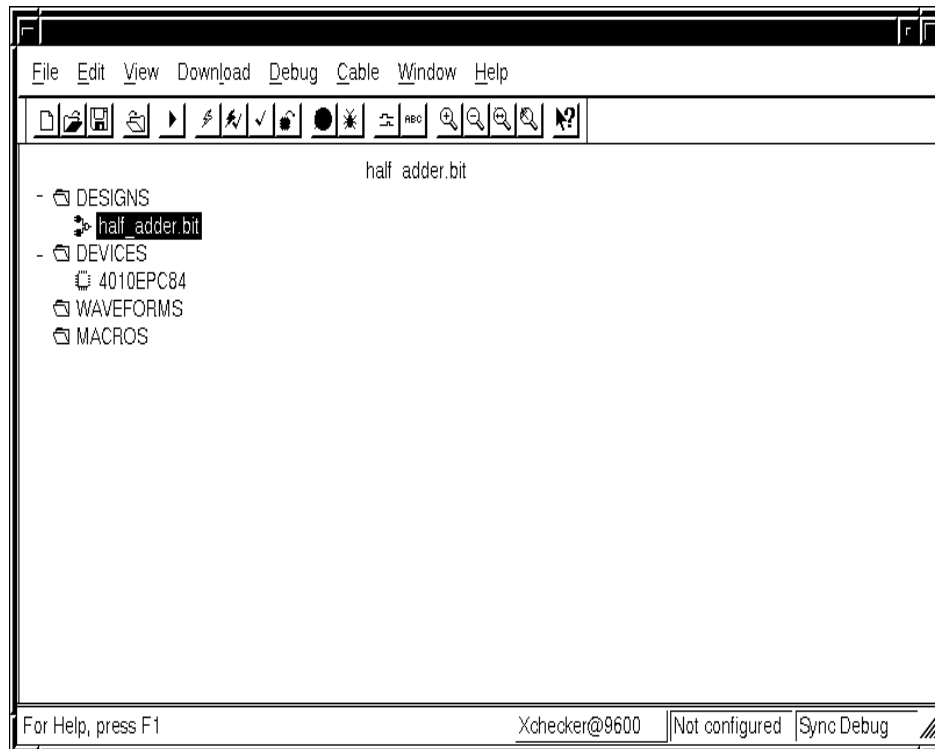

Figure 33: Selecting the half_adder.bit file for download.
(2) The Hardware Debugger window will now list the current design (half_adder). Use the mouse to highlight the half_adder.bit file listed under DESIGNS (see Figure 33). After selecting the bit file, select Download from the top menu bar.